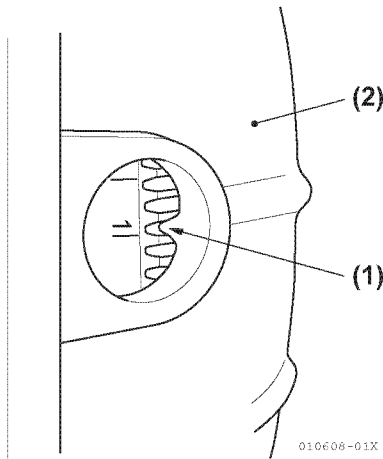

Figure 5-124
- The matching mark is made at the hole of the flywheel housing (Figure 5-124).